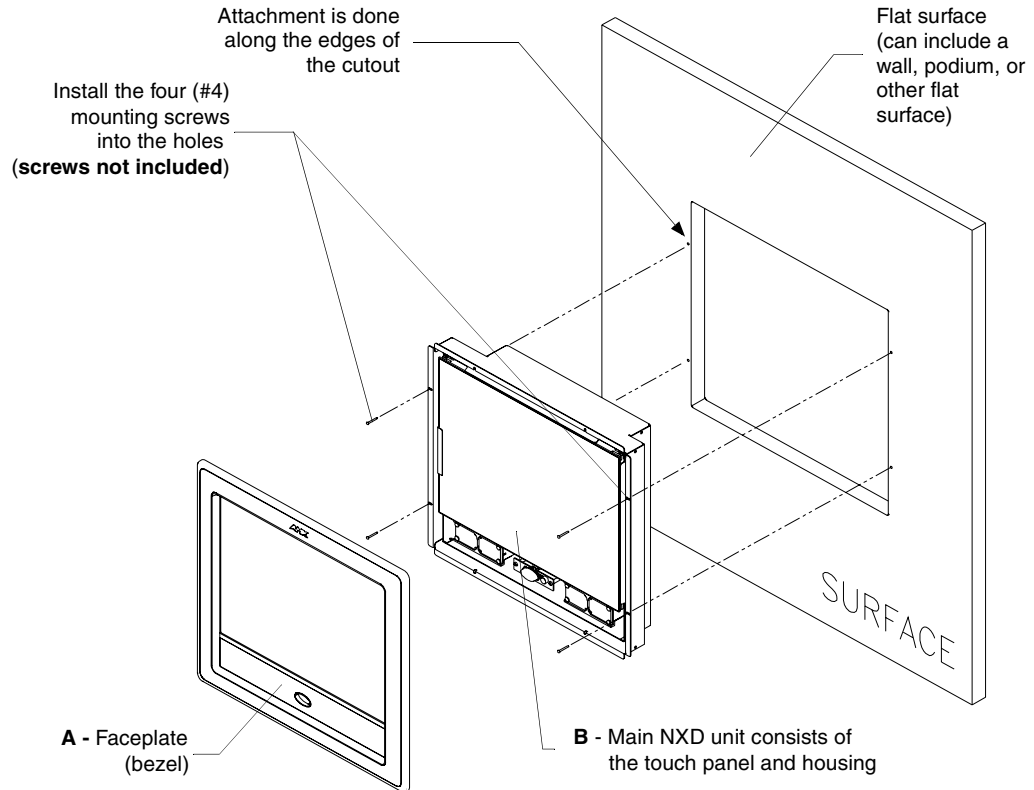

FIG. 41 Wall Mount panel installation configuration for flat/solid surfaces
3. Remove the magnetic faceplate/bezel (A in FIG. 41) from the main NXD unit (B in FIG. 41) by gripping the faceplate and pulling with gentle outward force.
10. Place the magnetic faceplate (A in FIG. 41) back onto the main NXD unit (B in FIG. 41).